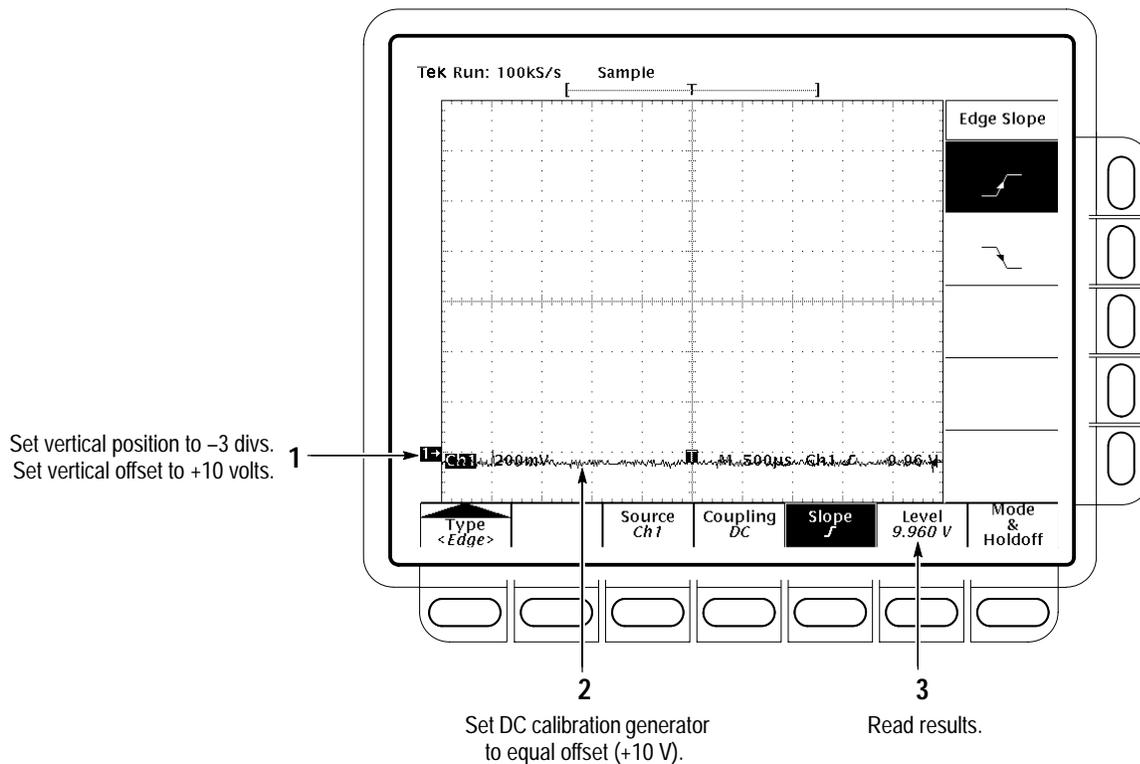

Figure 4–17: Measurement of Trigger-Level Accuracy
c. *Read results (Check against limits):* See Figure 4–17.